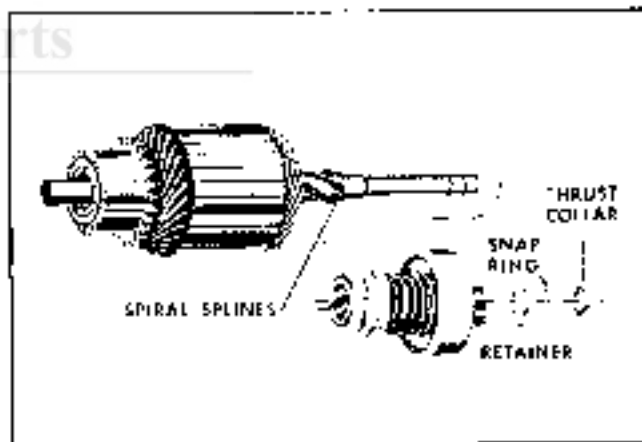

Fig. 6E-1 Amature and Overrunning Clutch Assembly
- a. Slide thrust collar (Fig. 6E-1) off end of armature shaft.
b. Slide a standard half-inch pipe coupling or other metal cylinder of suitable size (an old pinion of suitable size can be used if available) onto shaft so end of coupling or cylinder butts against edge of retainer (Fig. 6E-2). Tap end of coupling with hammer, driving retainer towards armature and off snap ring.